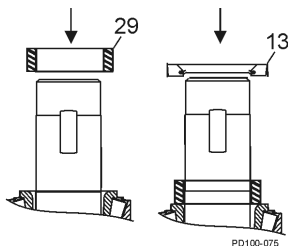

Figure 213 - Install Rear Seal
1. Install the gear spacers (Figure 213, item 29).
3. Install the oil seals with the spring facing out (Figure 213, item 13).